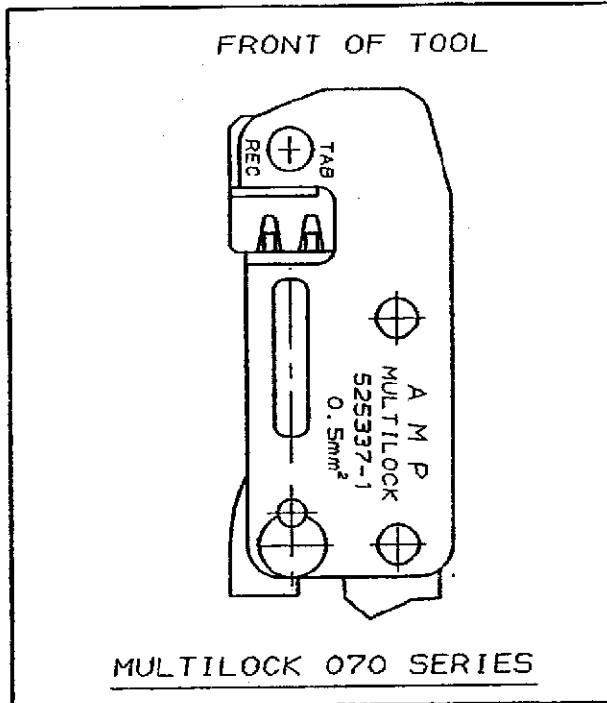

Fig.1-1
- 1.Refer to the appropriate APPLICATION SPEC See Fig 1-1,for the required terminal/wire combination.